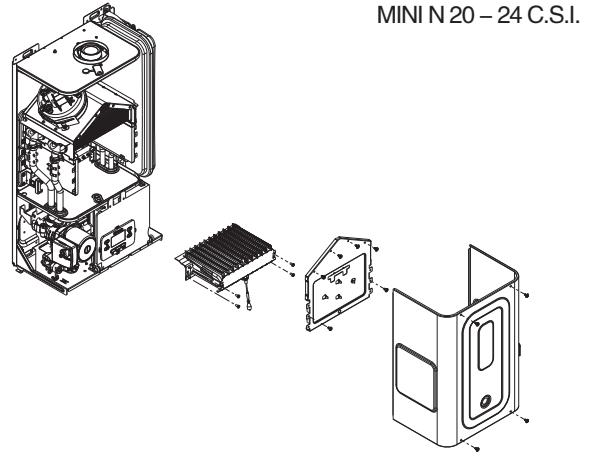

Fig. 18 ————— MINI N 28 C.S.I. – 28 R.S.I.
10. 气种转换 (Fig.8, Fig.18–19)
- 松开燃烧器固定螺丝，取下燃烧器及点火线 (Fig.18)；